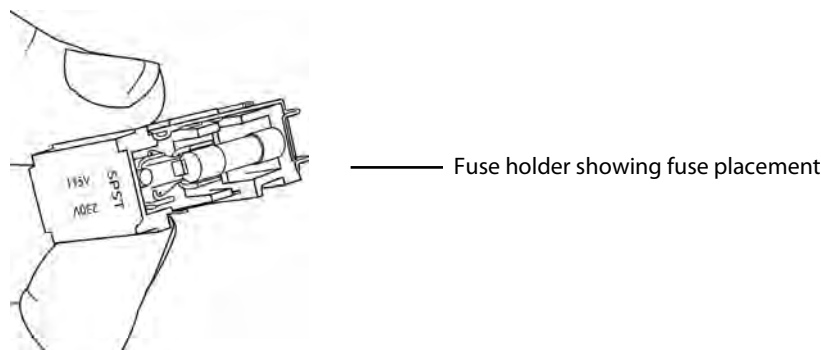

Figure 4.8
3. Carefully ease the red fuse holder out of the power entry module, see Figure 4.8.